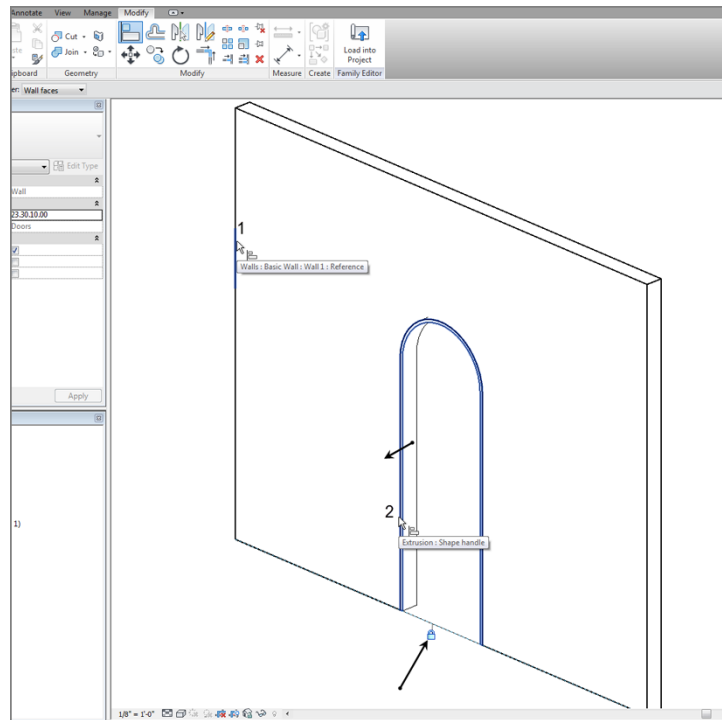

FIGURE 17.20: Aligning and locking the inside face of the jamb to the wall
2. Click the Align button on the Modify tab, as shown in Figure 17.20.
6. Click the open padlock icon that appears (see Figure 17.20).